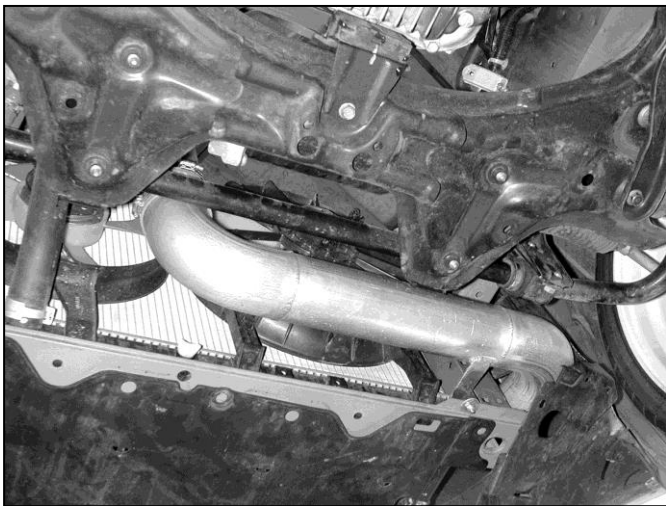

Fig.9
- l. Using the supplied 3" coupler and two No. 48 clamps, install the lower inlet pipe onto the upper pipe with the mounting bracket on top of the rubber isolator. **(Fig. 9)**